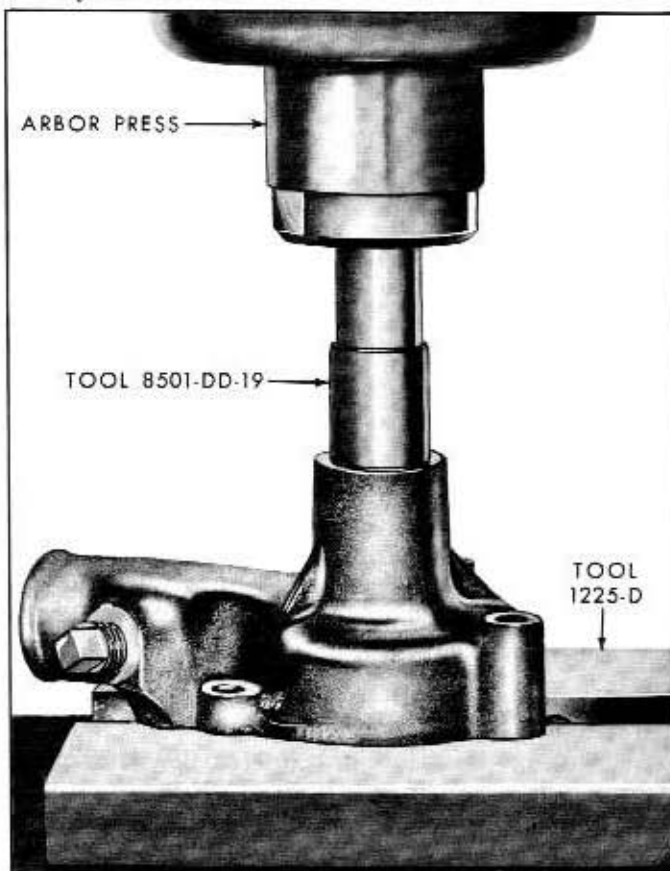

Fig. 8-6—Shaft and Bearing Removal—(60C-6003)
2. Position the pump on an arbor press, use Tool 8501-DD-19, and press the shaft and bearing out of the housing. See figure 8-6.